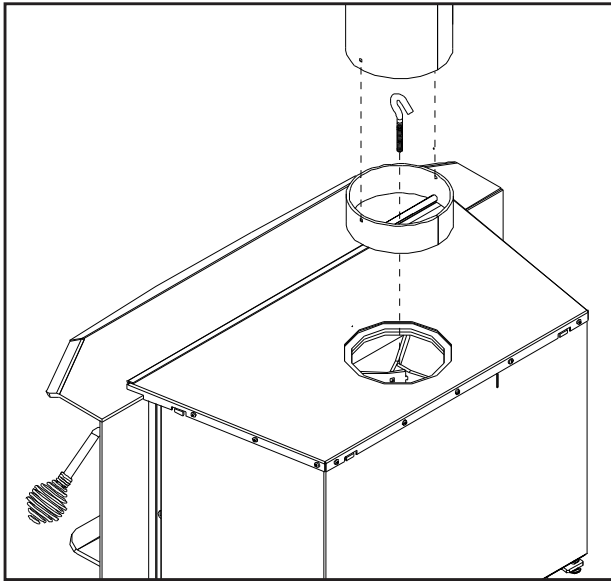
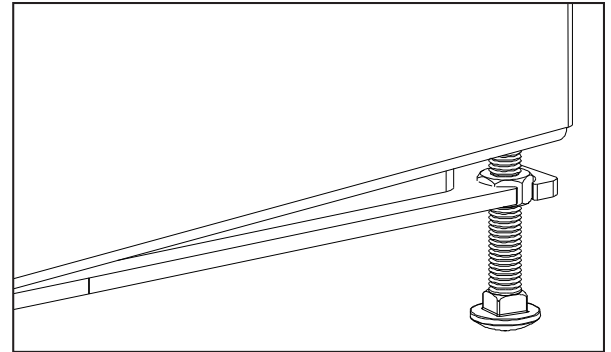

Figure 41: Attaching removable flue.
Figure 42: Leveling leg.
- f) Using the hook/bolt, grab the flue collar by the rod through the center and pull it into place (see Figure 41).
- h) Re-install ceramic baffles and the first two (2) front secondary air tube (see CERAMIC BAFFLE INSTALLATION).
3. There are two (2) leveling legs (shown in Figure 42), one on each side, at the back of the unit. Adjust the legs using a $\frac{9}{16}$ " wrench to ensure the unit is stable.